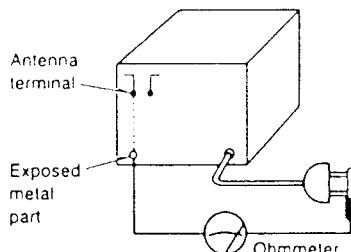
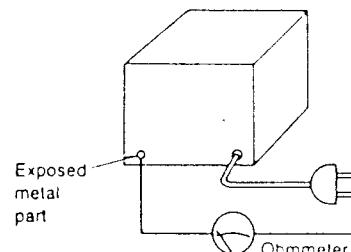

Fig. 1
Fig. 2
3. Measure the resistance value with ohmmeter between the jumpered AC plug and each exposed metal cabinet part, such as screwheads, antenna, control shafts, handle brackets, etc. Equipment with antenna terminals should read between $3\text{ M}\Omega$ and $5.2\text{ M}\Omega$ to all exposed parts*. (Fig. 1) Equipment without antenna terminals should read approximately infinity to all exposed parts. (Fig. 2)